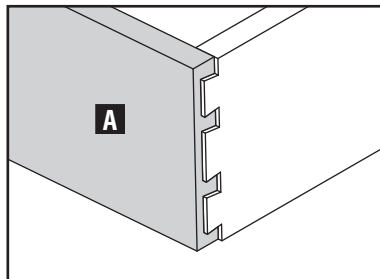
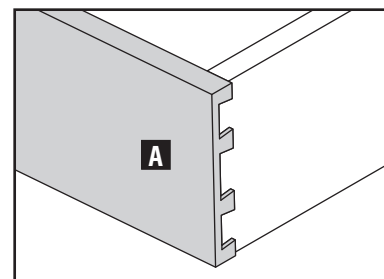

Fig. E15
Fig. E16
If the end grain of the pinboard (A) is recessed (too low, as shown in Fig. E15) or if it is too proud (too high, as shown in Fig. E16), the template can be adjusted to fix this.